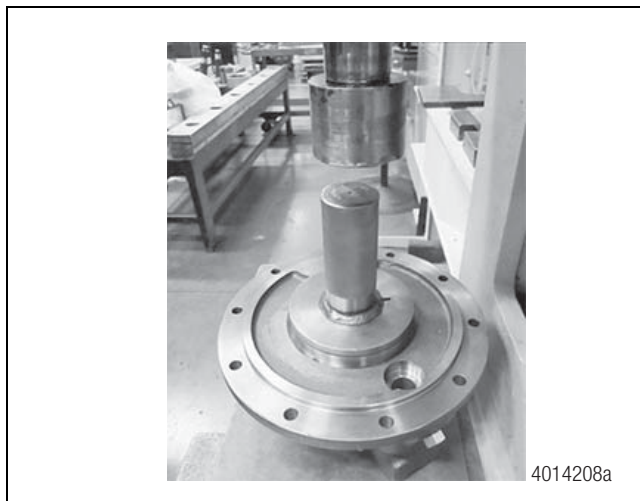

Figure 6.19
10. Press the bearing cup into the carrier. Figure 6.19.